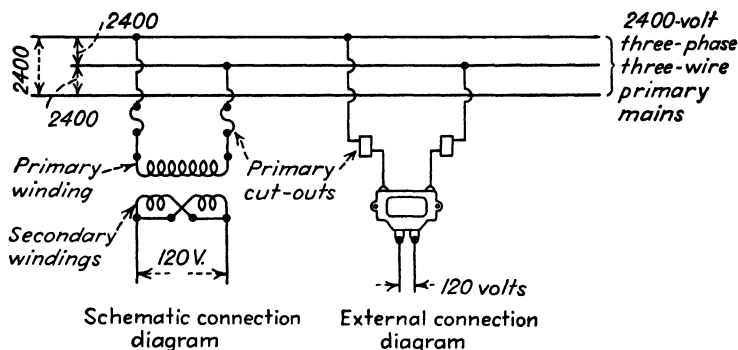
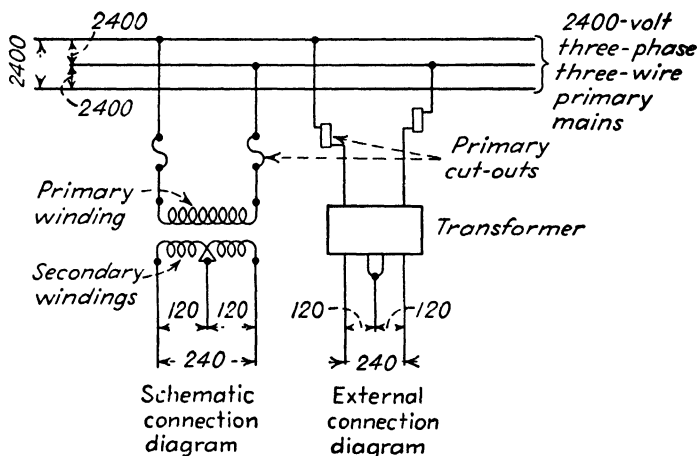

FIG. 5-7. Single-phase transformer connected to give 120-volt two-wire secondary mains. The two secondary coils are connected in parallel.
FIG. 5-8. Single-phase transformer connected to give 240/120-volt three-wire secondary mains. The two secondary coils are connected in series.
**Transformer Connections.** *Single-phase.* The usual connections of single-phase transformers met in practice are those shown in Figs. 5-7 to 5-9. In the first two cases the transformer is tapped to 2,400-volt three-
120-volt two-wire or 240/120-volt three-wire mains. To obtain 120 volts the coils are connected in parallel as shown in Fig. 5-7, and to obtain 240 volts the coils are connected in series as shown in Figs. 5-8